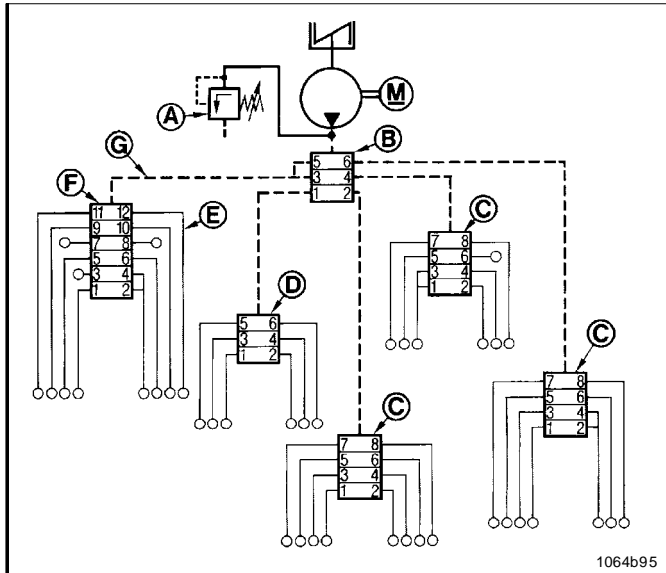

Fig. 5-1 Example of a lubrication system
- The main metering device B (fig. 5-1) and the secondary metering devices are connected by a high-pressure hose G. This feature automatically causes the linkage of the progressive system connected downstream of the pump.